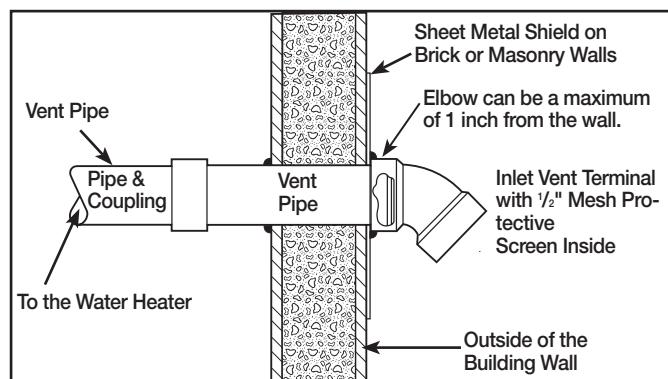

Figure 6 – Typical Horizontal Vent Installation
3. **DO NOT** terminate vent pipe directly on brick or masonry surfaces. Use a rust-resistant sheet metal backing plate behind vent. (See Figure 6.)
**HORIZONTAL VENT INSTALLATION** – Once the vent terminal location has been determined, make a hole through the exterior wall to accommodate the vent pipe. The vent pipe must exit the exterior wall horizontally only (See Figure 6).
Insert a small length of vent pipe through the wall, and connect the coupling as shown in Figure 6. Connect the vent terminal as shown to the vent pipe on the exterior of the building. Seal any opening around the vent pipe or fittings with mortar or silicone caulk as shown in Figure 6.